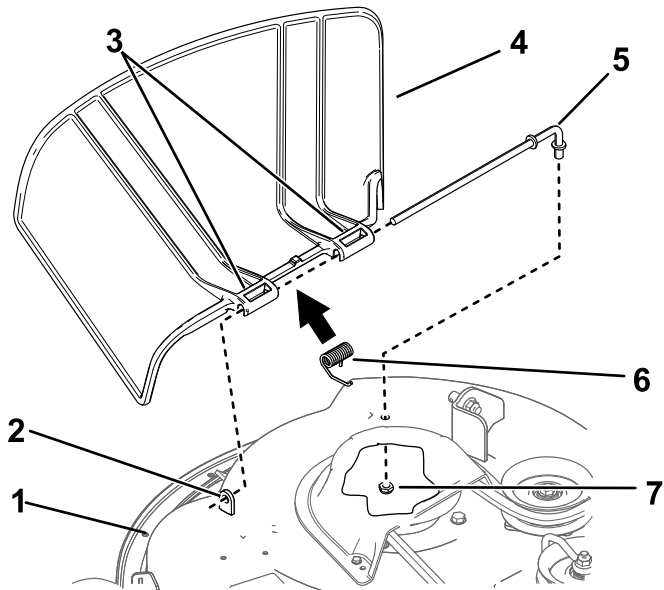

Figure 68
- Remove the nut (3/8 inch) from the rod under the mower (Figure 68).
- Slide the rod out of the short stand-off, spring, and grass deflector (Figure 68).
- Install the new grass deflector (Figure 68).
- Slide the rod through the second grass-deflector pivot (Figure 68).
- Secure the rear end of the rod into the mower with a nut (3/8 inch) as shown in Figure 68.